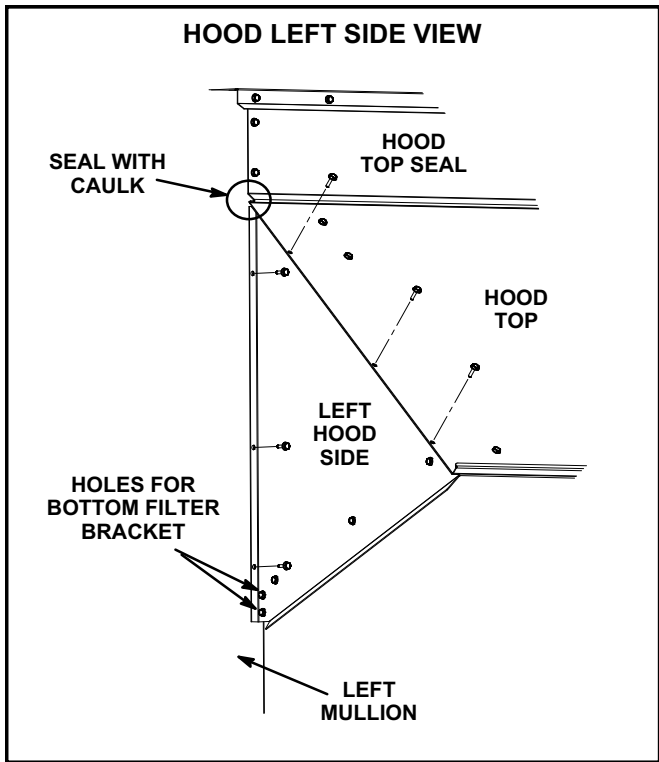

FIGURE 23
- 9- Secure left hood side to the hood top. See figure 23. Secure the left hood side to the unit using three screws removed in step 4. See figure 23.
- 20- Caulk (field-provided) both ends of the top seal and hood top as shown in figures 23 and 24.